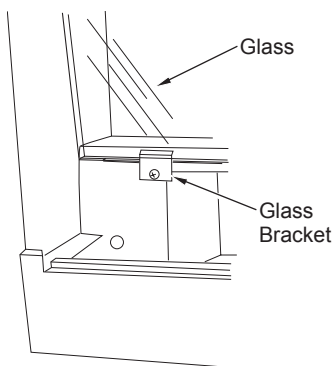

Figure 8 - Glass and Bracket Location
3. Remove left and right screws and brackets that hold glass in place. These are located at the bottom of glass panel (see Figure 8).